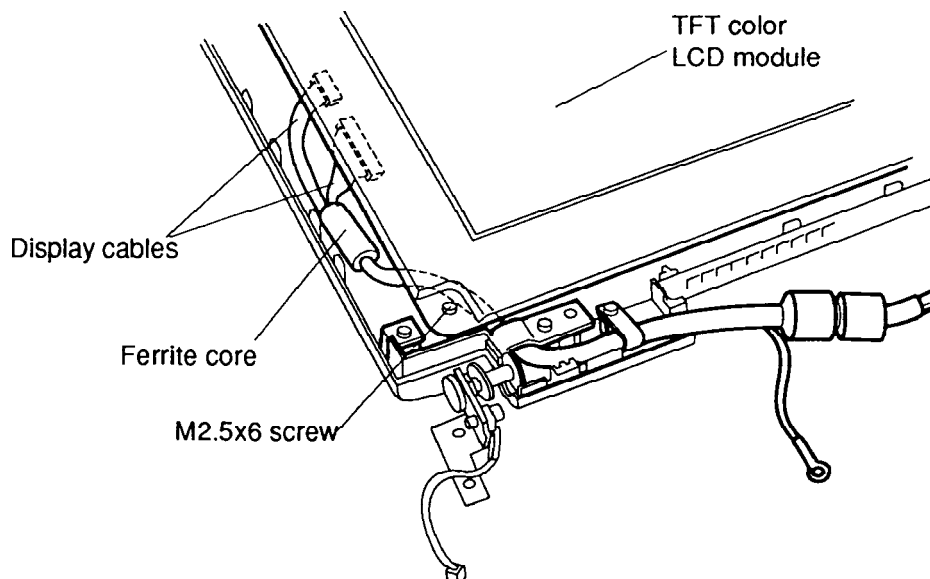

Figure 4-33 *T4500C Display Cable Routing and Connection*
1. Connect the **two display cables** to **CN1** and **CN2** on the **LCD module** and route the cables so they are not pinched by the FL unit or other component (Figure 4-33).